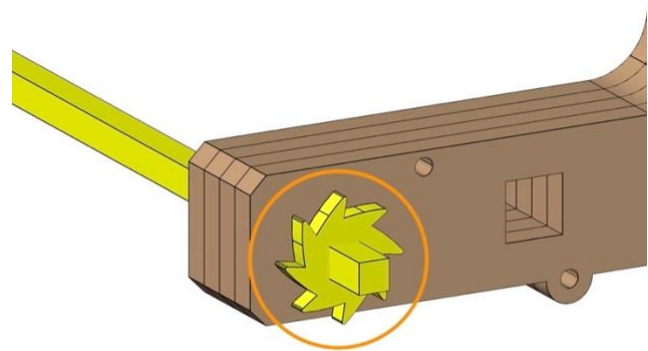

Fig. 28
- Fig. 28 shows the completed process. The orange circle highlights the correct orientation.